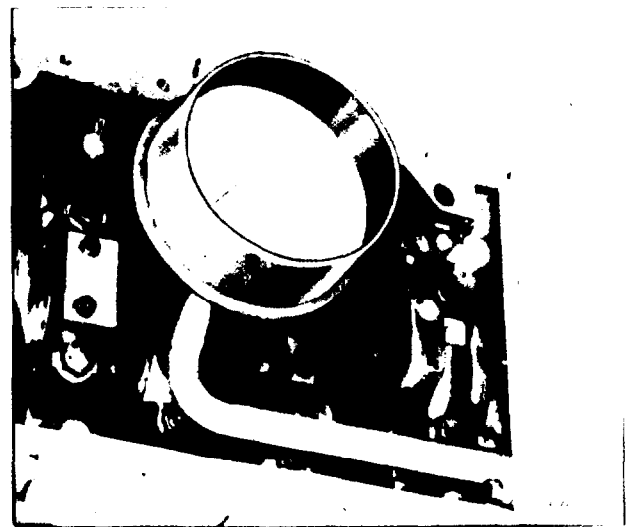

Fig. 2 - Typical Oil Pump Inlet Pipe and
4. Refer to Fig. 2 and remove the four bolts which attach the oil pump inlet pipe and screen assembly to the main bearing cap and engine front cover or oil pump inlet elbow. Slide the flange and the seal ring on the inlet pipe and remove the pipe and screen as an assembly. Remove the oil pump inlet elbow (if used) and gasket from the engine front cover.